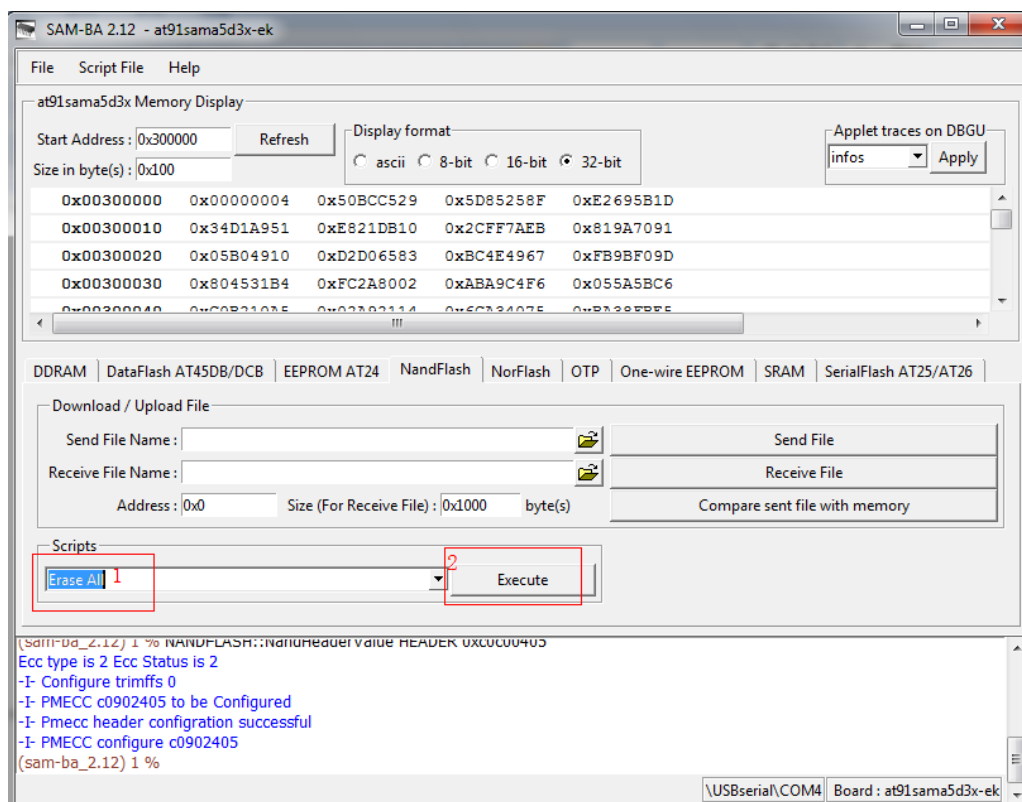

Figure 3-9
③ Select "**Erase All**" in Scripts tab, then click "**Execute**", Erase NandFlash. Refer to figure 3-9: